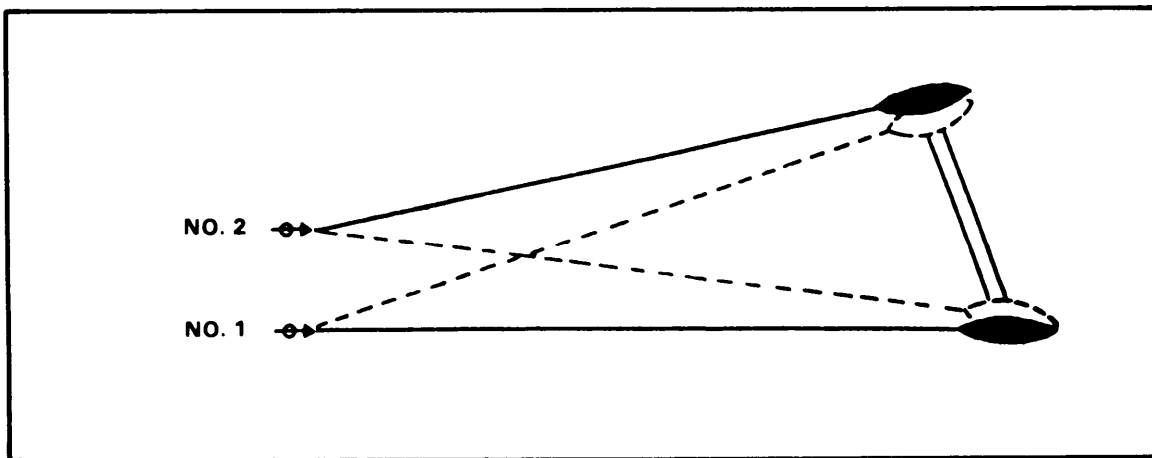

Figure 6-19. Two MK 19s, linear target with depth.
(1) One MK 19, flanks visible. The gunner lays initially on the near flank of the target with range set to the midpoint, adjusts fire on the near flank, and traverses and searches back and forth, covering the entire target, until told to cease firing.
(2) Pair of MK 19s, flanks visible. Gunners use the same method as for engagement of a deep linear target: they must search to keep the center of impact on the target. The leader determines the range for the initial fire command the same as for a deep target (Figure 6-19).